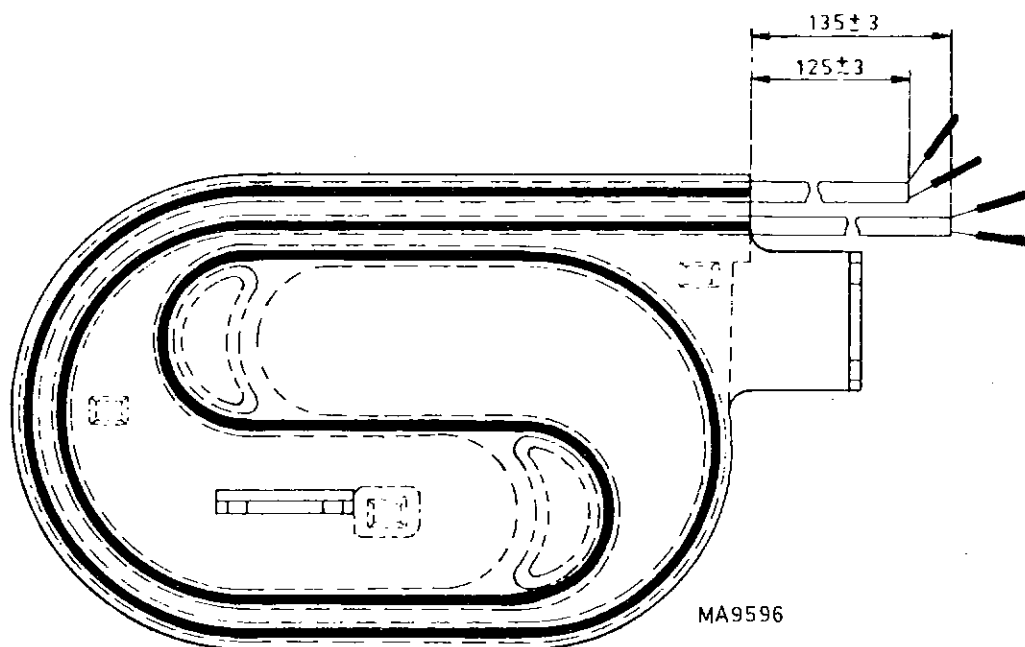

Fig. 6.9.
- Before mounting it must be checked, that the new delay line is placed in its housing like shown in Fig. 6.9.